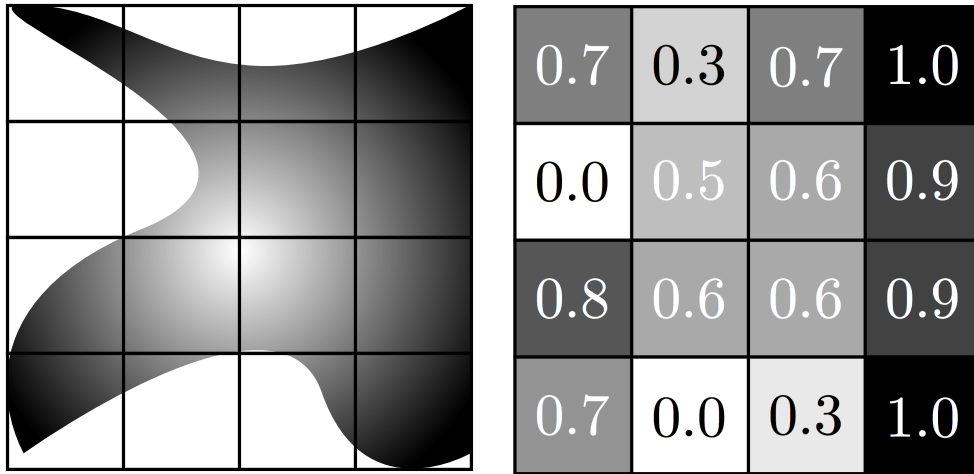

Figure 8.1: A Simple Image and Sensor Array
- b. How would the image in Figure 8.1 be processed by a vision sensor with the resolution of the grid overlay? (*i.e.* What would the value of each “pixel” be and/or what matrix could represent this image?)